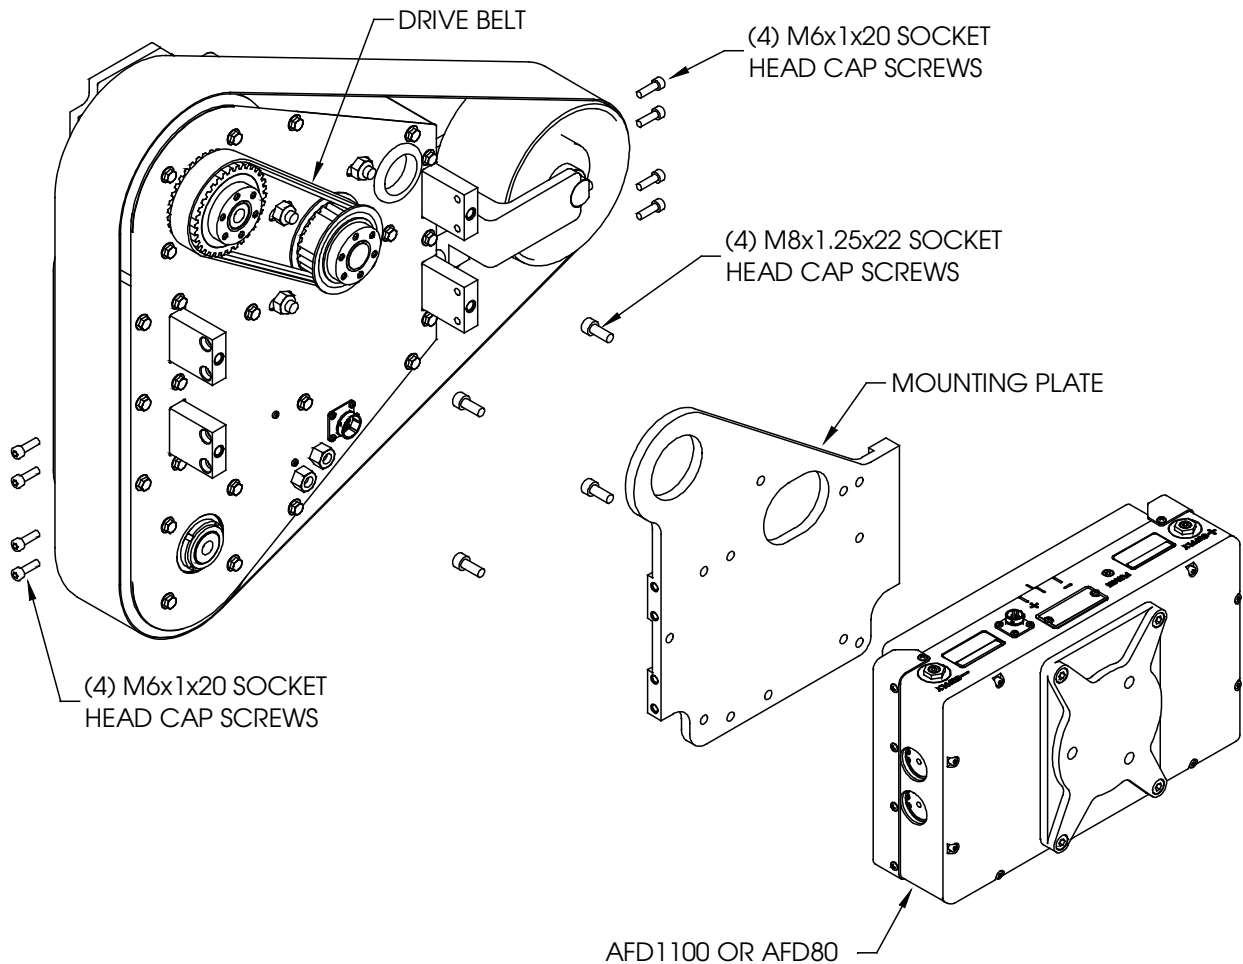

Figure 1. Mounting the RBS372 to an AFD
The RBS372 Robotic Belt Sander is designed to be mounted on an AFD1100/80 adjustable force device. To mount the RBS372 to an AFD: first detach the Mounting Plate by removing the eight (8) M6x1x20 Socket Head Cap Screws securing it to the RBS. The Mounting Plate has three (3) sets of four (4) holes for mounting directly to the AFD1100/80. Each of the four (4) hole sets allows the RBS to be oriented in three different positions relative to the Carriage travel. Position the Mounting Plate on the AFD Carriage and secure it using four (4) M8x1.25x22 Socket Head Cap Screws. Finally reattach the RBS to the Mounting Plate using the eight (8) M6 fasteners previously removed (See Figure 1). Tighten all the fasteners to the torque specified in Section 5.0. If the PushCorp supplied Mounting Plate is not used, the customer is responsible for providing a Drive Belt guard. **Do not operate the RBS without a Drive Belt guard.**